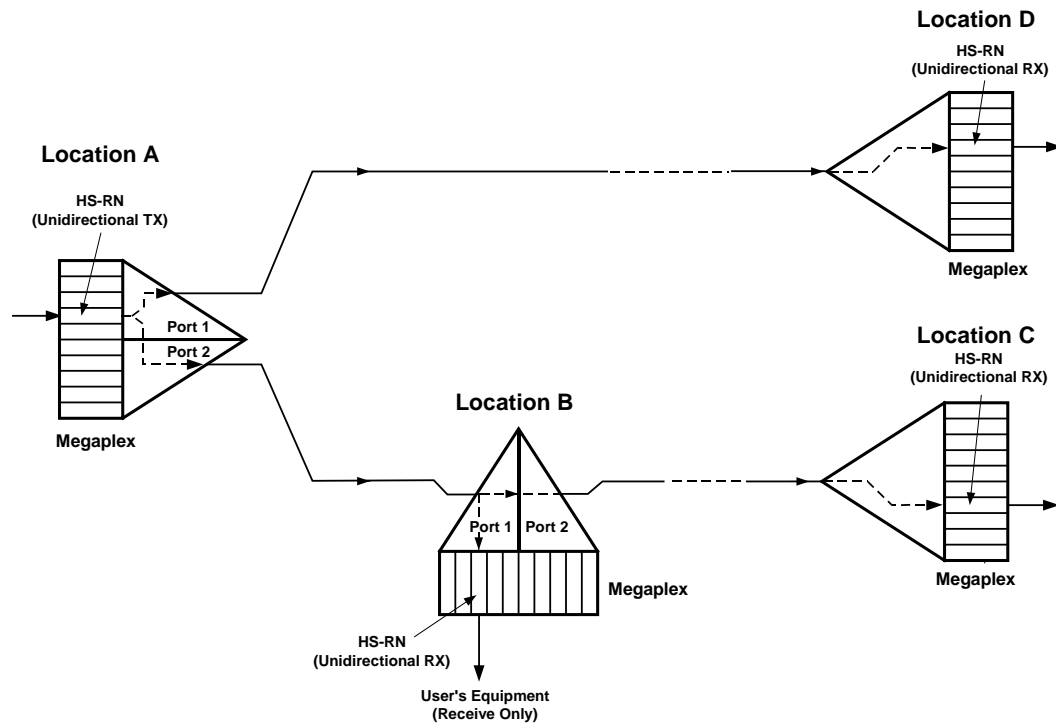

Figure 9-13. Typical Unidirectional Broadcast Application for Data Modules
This capability is achieved by separating the handling of the receive and transmit paths in the timeslot assigned for the unidirectional channels, as shown by the dashed lines within the Megaplex units in *Figure 9-13*.
*Figure 9-13* shows a network that uses the unidirectional broadcast mode to distribute data from a central location (A) to several remote locations (B, C, D, etc.). In *Figure 9-13*, the user at the central location (A) is connected to an HS-RN channel configured for operation in the unidirectional transmit mode. The channels of the remote users (at locations B, C, D) are configured for the unidirectional receive mode.
This section provides a detailed configuration example for the application shown in Figure 9-13.